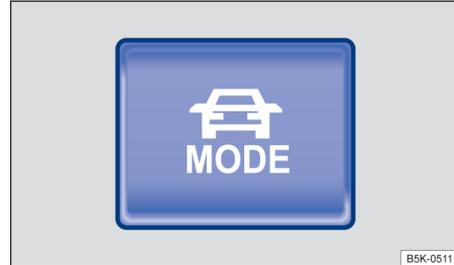

Fig. 106 In the lower center console: Driving Mode Selection button (if equipped).
- Press the Driving Mode Selection button  → fig. 106.